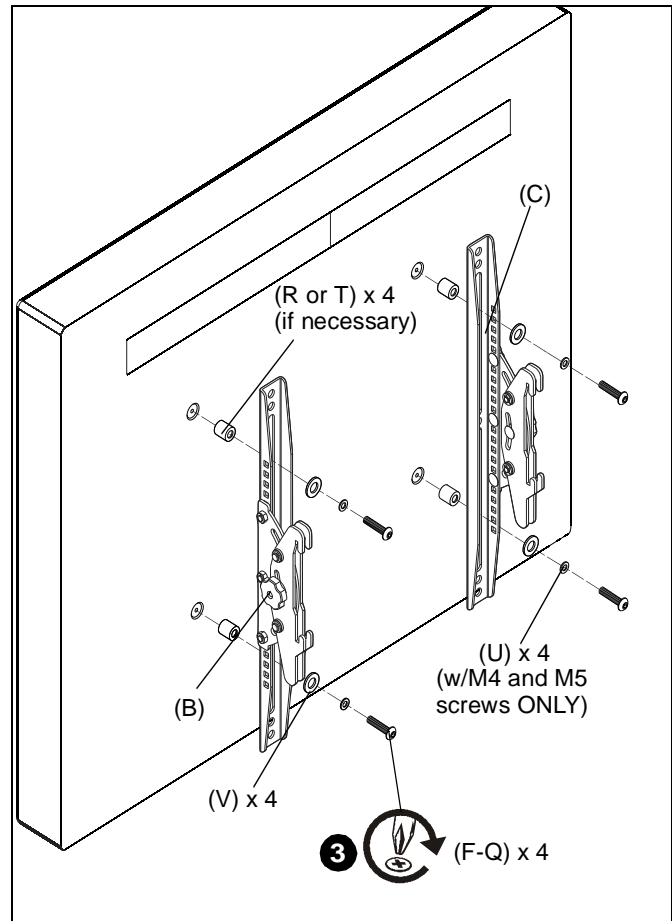

Figure 6
2. Place left and right interface brackets (B and C) on the back of the display, with the tension knob on each bracket facing toward the outside of the television. (See Figure 6)
3. Secure the left and right interface bracket assemblies (B and C) to the display. Select the mounting hardware that fits your application. (See Figure 6)
- Use M6 screws (H or J) or M8 screws (F or G) and 1/4" washers (V).
- Or, use M4 screws (N, P or Q) or M5 screws (K, L or M), 1/4" washers (V) and #10 washers (U).